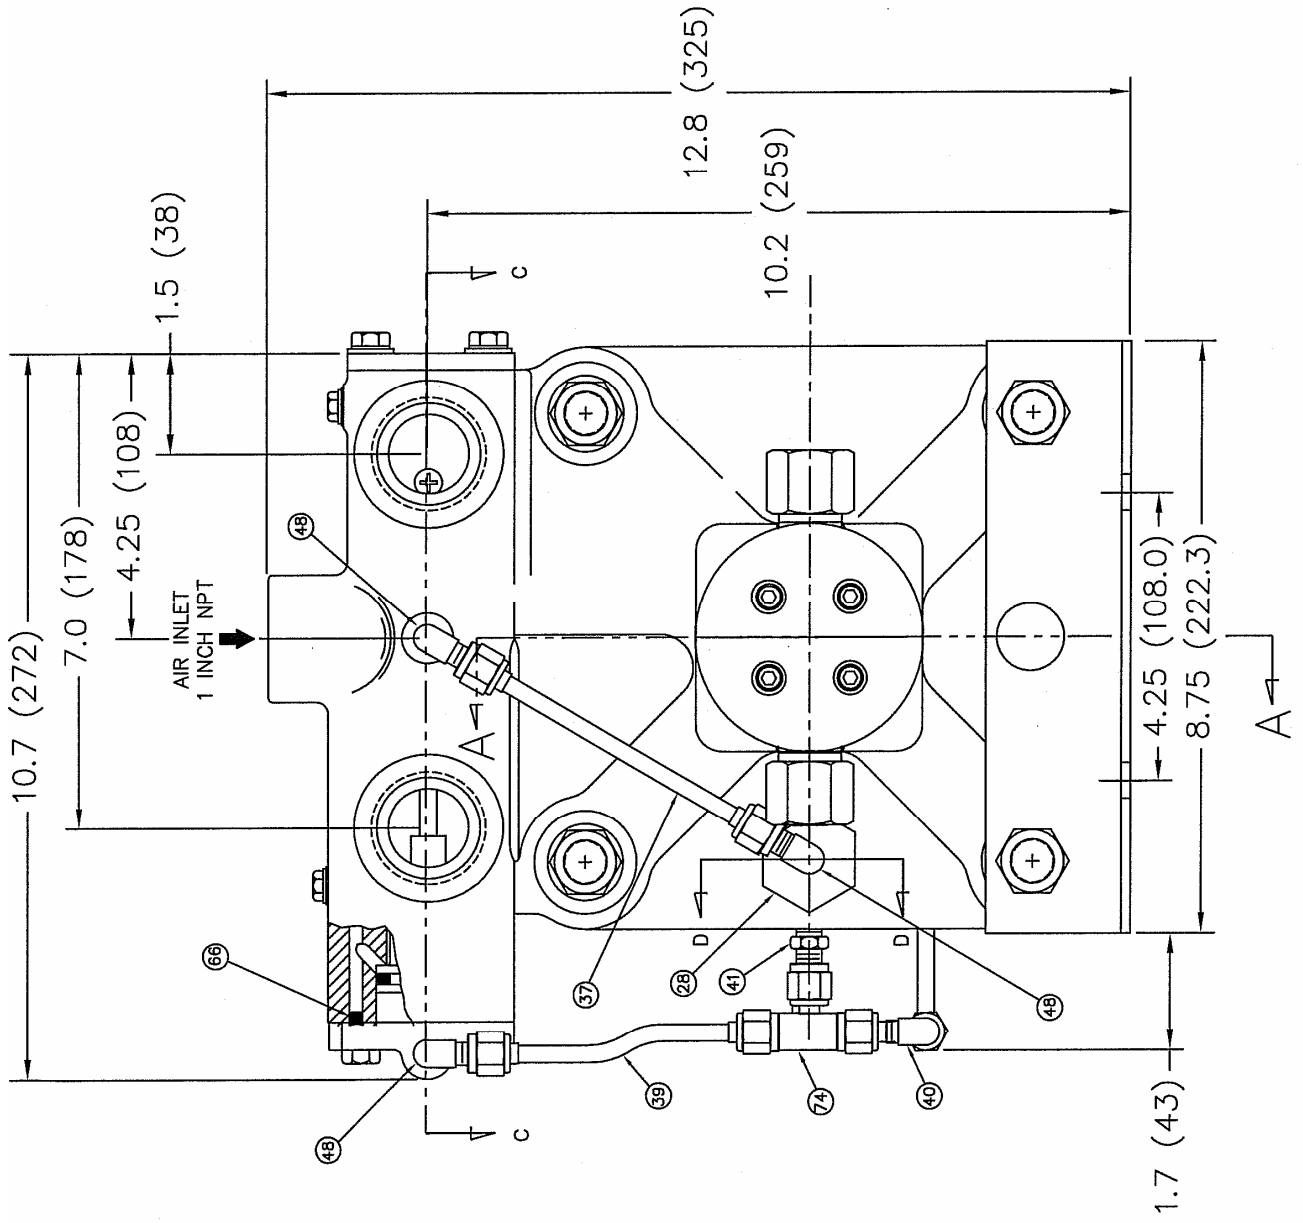

FIGURE 3 - END VIEW
- 9.3 Air motor and high pressure assembly. See Figures 3, 4, 6 and 7.